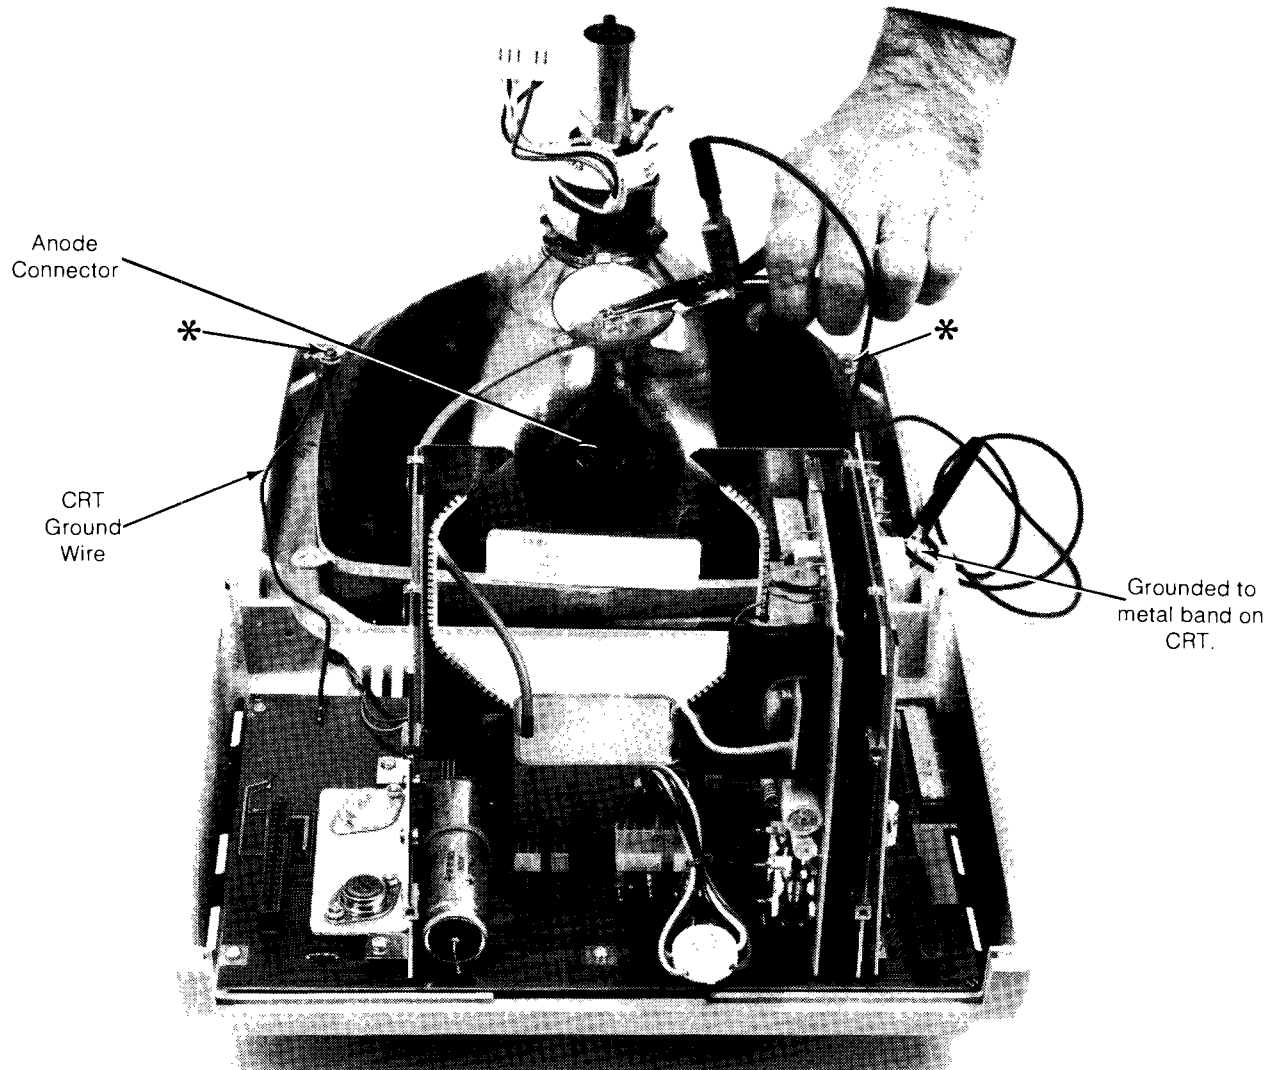

Figure 3-5. Anode Connector Removal
- Set the bottom chassis down (see Figure 3-5).
- Use a grounded and insulated needlenose pliers to remove the anode connector (see Figure 3-5). Lift the plastic insulation disk of the anode connector. Pinch the connector wires together and remove the anode connector.
WHEN REINSTALLING THE CRT BOTTLE ENSURE THAT THE GROUND WIRE IS CONNECTED TO ONE OF THE CRT MOUNTING SCREWS (SEE FIGURE 3-5). THE WIRE MUST TOUCH THE METAL BAND ON THE CRT. THIS WIRE GROUNDS THE CRT BOTTLE STATIC SHIELD COATING. IF THE WIRE IS NOT CONNECTED, A SHOCK HAZARD EXISTS.